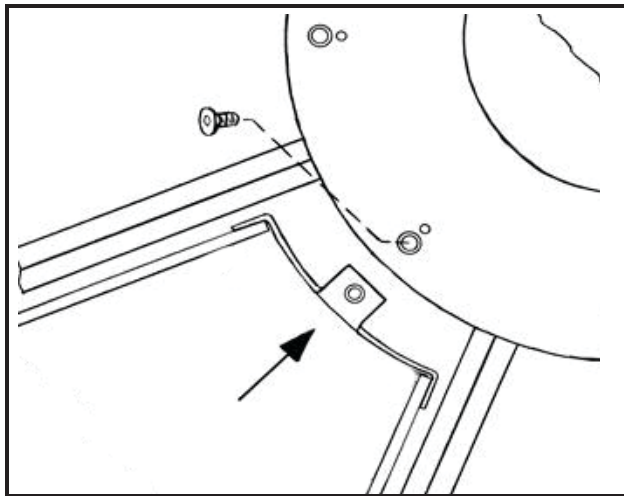

Fig. 35 — Nose to Hub Plate (ERC 81-86 ONLY includes screw)
5. For ERC-81 and ERC 86, use a 3/16 in. Allen wrench to remove the nose bolt securing the segment to the hub plate. See Fig. 35 for example to remove the nose bolt.
3. From the pulley side, slide segment into place nose first, then push outer portion of segment in to wheel frame. If you are installing an ERC-81 or ERC-86, use a 3/16 in. Allen wrench and the nose bolt to secure the segment to the hub. See Fig. 35 for segment placement.